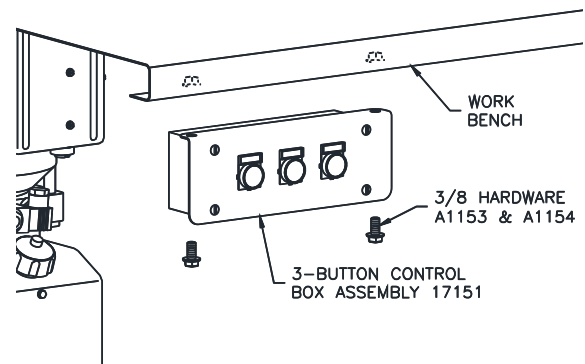

Fig 12 – Control Box Assembly Mounting
18. Mount the 3-Button Control Box Assembly to the leading edge of the workbench using the two 3/8 x 3/4" Lg. flanged bolts and nuts provided or suited hardware, **Fig 12**.